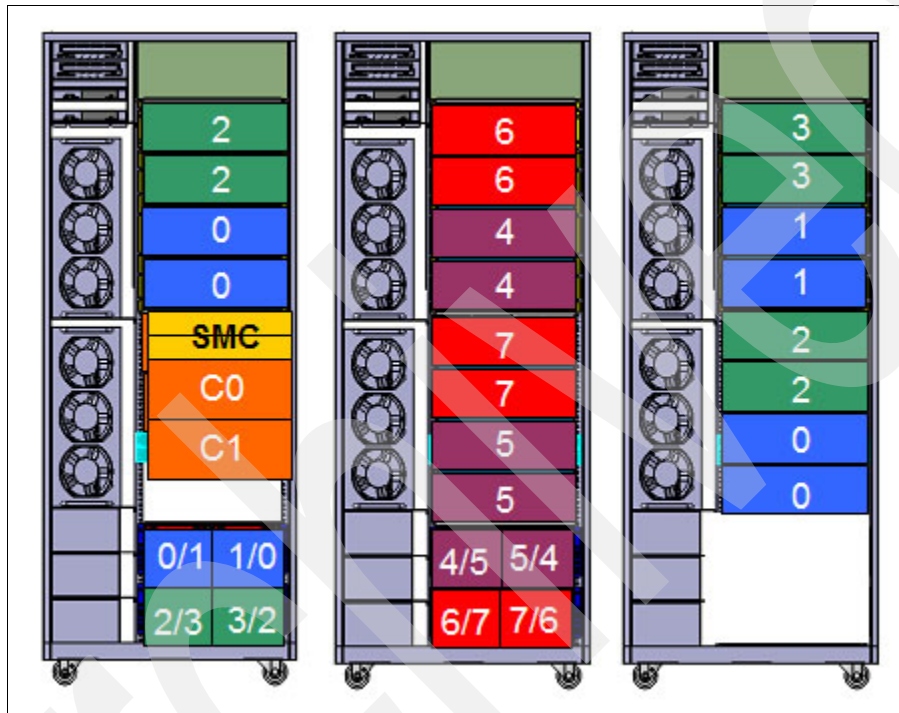

Figure 3-7 Device adapters in DS8300
Figure 3-7 shows this method.
**Note:** Figure 3-7 shows only the front disk enclosures. However, there are actually as many back enclosures, that is up to eight enclosures per base frame and up to 16 enclosures per expansion frame.